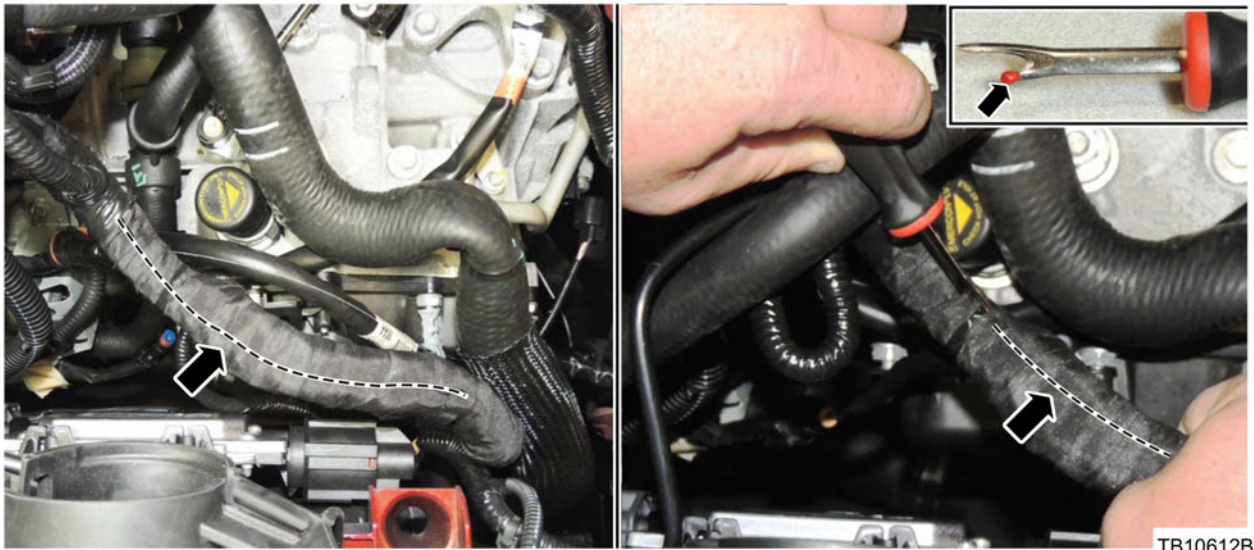

Figure 5 - Article 15-0007
10. Pull the engine wire harness upward to provide better access for the repair. Locate the section of engine wire harness that contains splice S182 and S108. (Figure 5)
11. Using a commercially available sheathing ripper such as Snap-On SGTT4A or equivalent, carefully strip the wire harness tape from the section of wire harness that contain splice S182 and S108. (Figure 5)